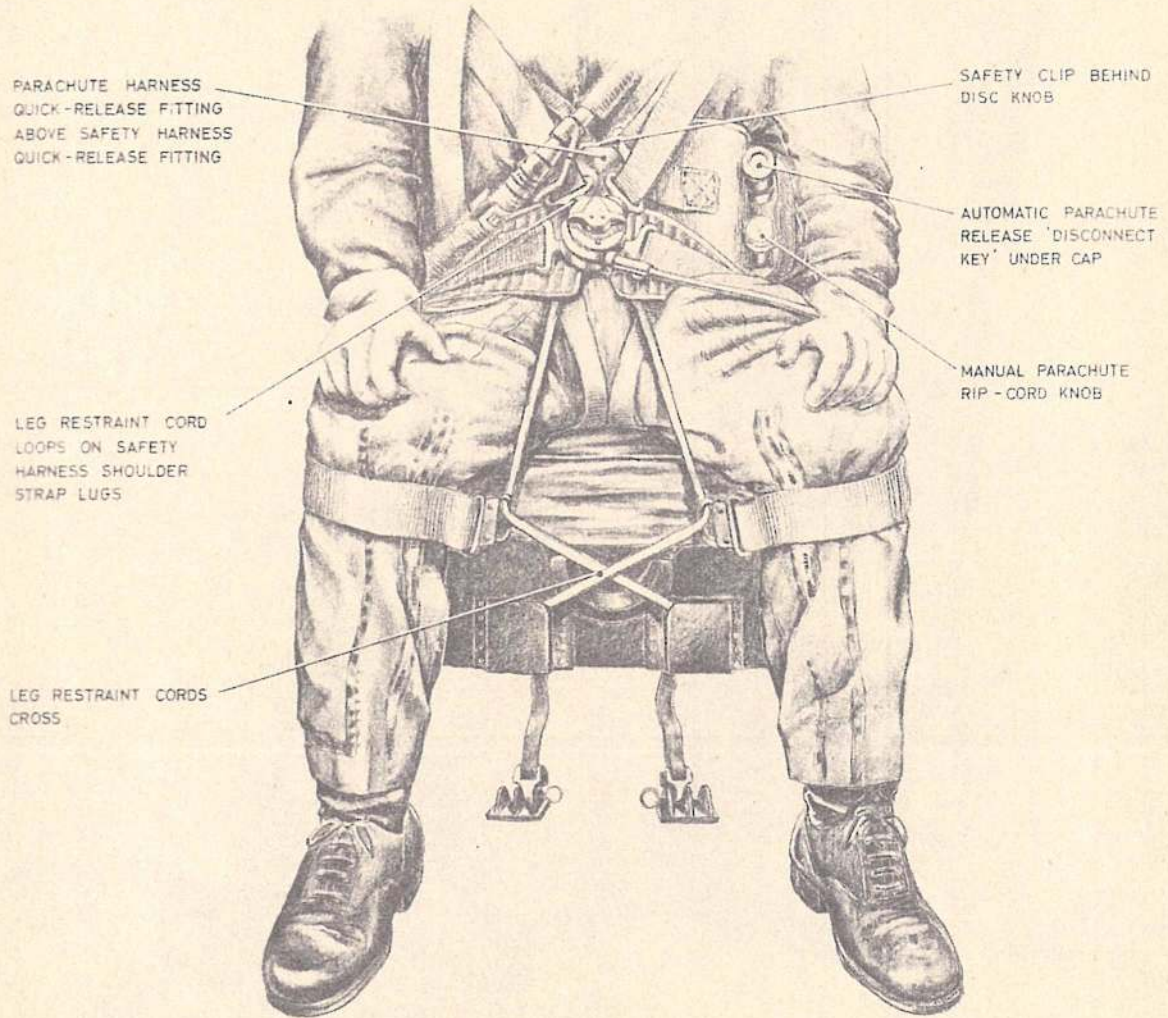

Fig. 3. Arrangement of harness and leg restraint cords
21. The procedure is as follows; refer to fig. 3, 4 and 5 for details as necessary:-